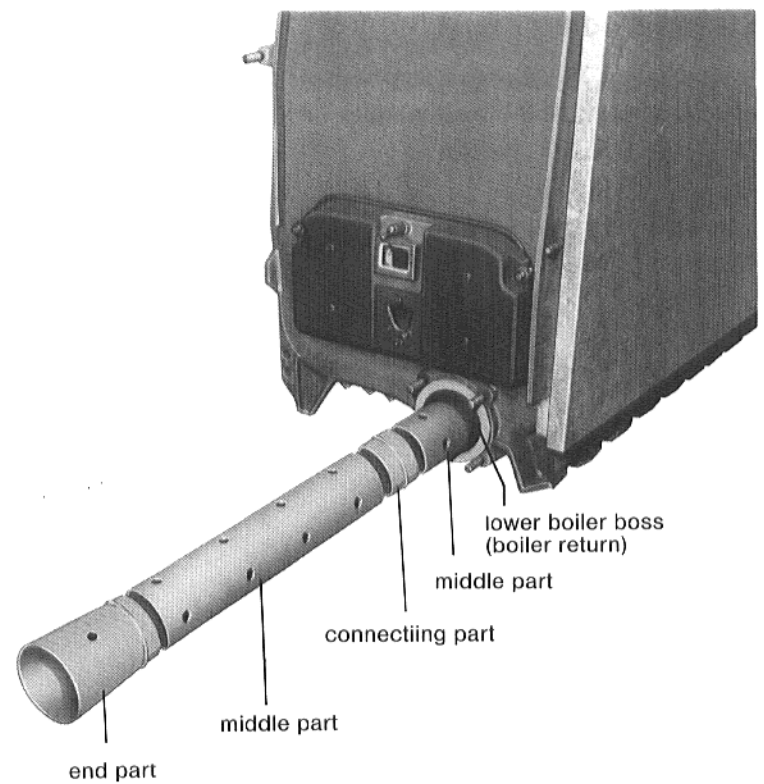

Fig. 16 – Schematic illustration
2. Stick the first end part (item 1) in the last middle part of the feed pipe (items 2, 3 or 4) and push into the lower boiler boss up to stop (Fig. 16).
3. Push return connection flange with a seal onto the lower boiler boss and screw on loosely (Figs. 16 and 17).